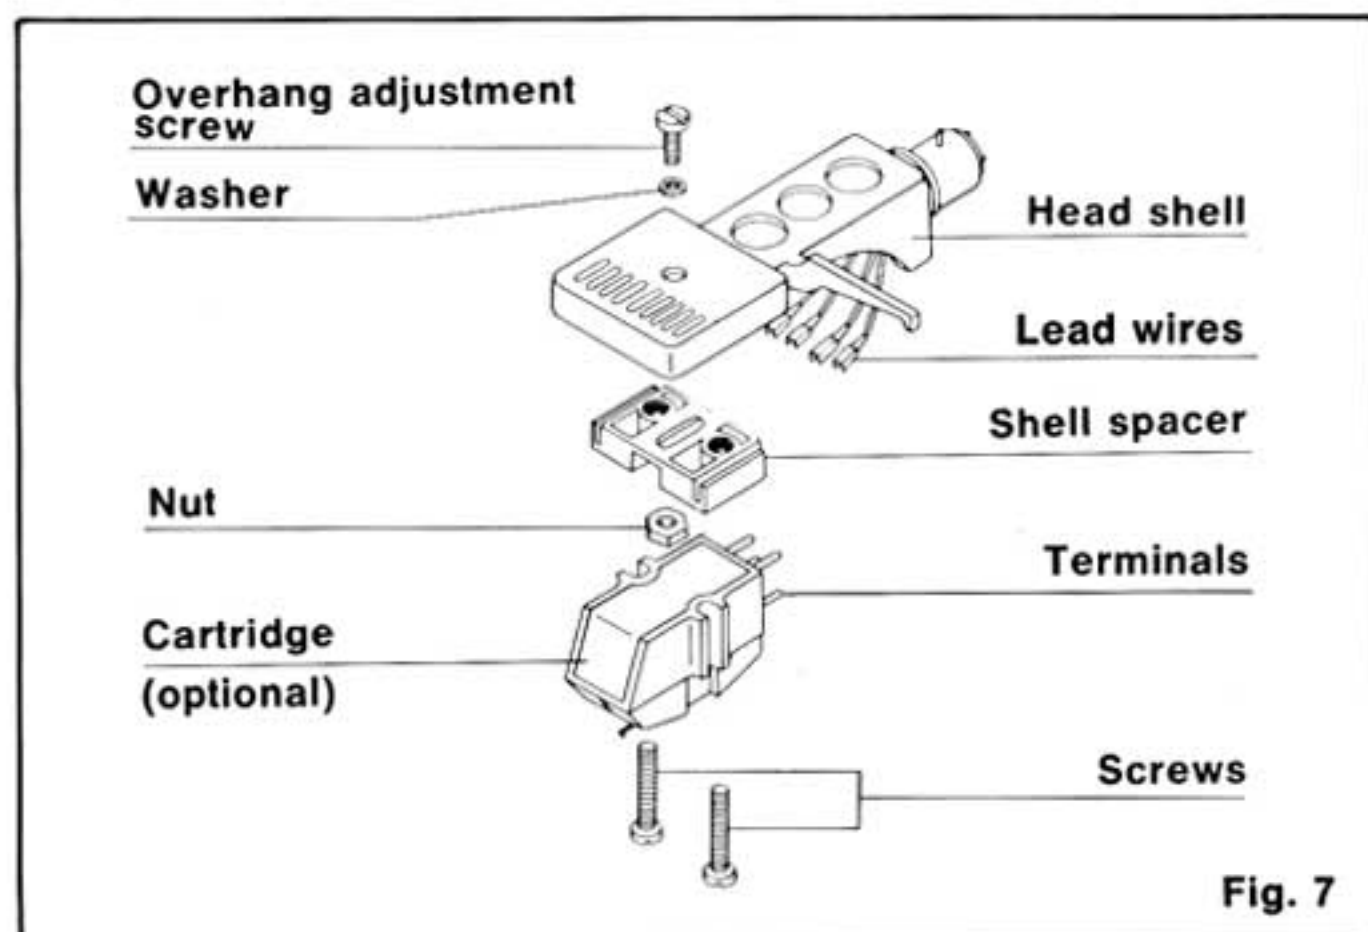

Fig. 7
*Install the cartridge to the shell spacer, and tighten it with screws. (See Fig. 7)